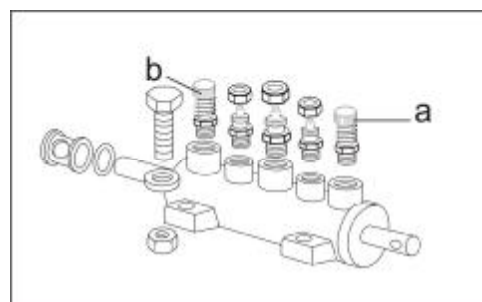

Fig.21
- I If tilting speed is too fast or too slow, adjust the throttles to change speed. If the speed is too fast, fasten the screw on throttle mouth. If too slow, loose the screw. The 5-way valve has two throttles (Fig.21, of which "a" is for tilting backward while "b" is for back to upright position).